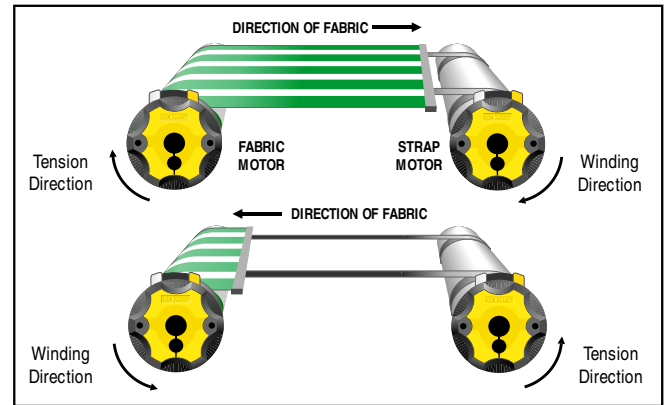

Fig. 2
The motorized tubes should be mounted onto their respective brackets. **The locking stop ring included with each operator MUST be used with the motor end bracket.** Ensure that the motorized tubes are parallel and fabric is rolled up. Attach Straps to the strap tube. Connect the Tester cable to the motor leads as shown in the table to the right, and in fig. 2 below. The winding direction will have the power switched, and the tension direction is not used.
1. Unwind the fabric using the tester cable (fig. 2). When the desired position is reached, set the strap tube limit by pressing and releasing the PRIMARY limit (1) on the strap motor tube. Then press and release the SECONDARY limit (2) on the fabric motor.